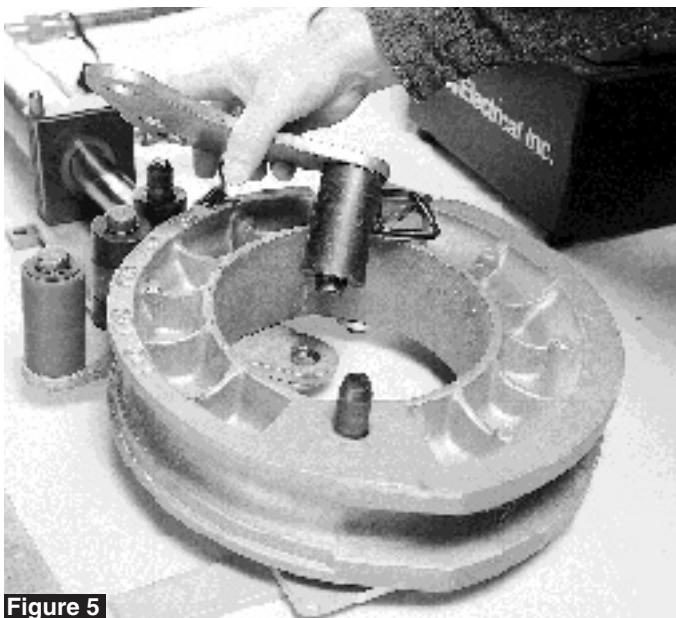

Figure 5
- The bending shoe must swivel in a clockwise direction about the pivot pin when bending pipe. Therefore, when assembling the bender, swivel the shoe counter clockwise to bring it into contact with the steel rollers so that the top roller plate can be assembled (see Figure 5).